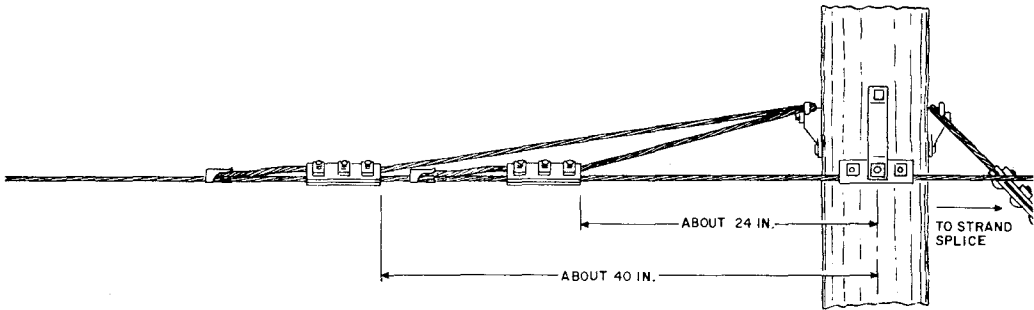

Fig. 4—6, 6.6, 10, and 16M Suspension Strand
2.03 Where the strand is supported at a pole with a B cable suspension clamp, install a false deadend as illustrated in Fig. 4 and 5.